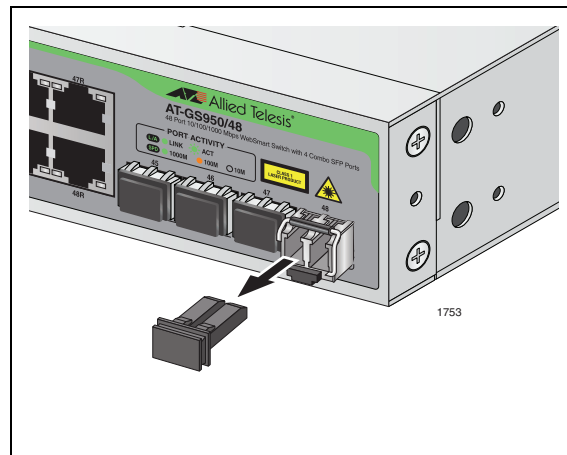

Figure 14. Removing the Dust Plug from the SFP
1. Remove the dust plug from the SFP transceiver, as shown in Figure 14.